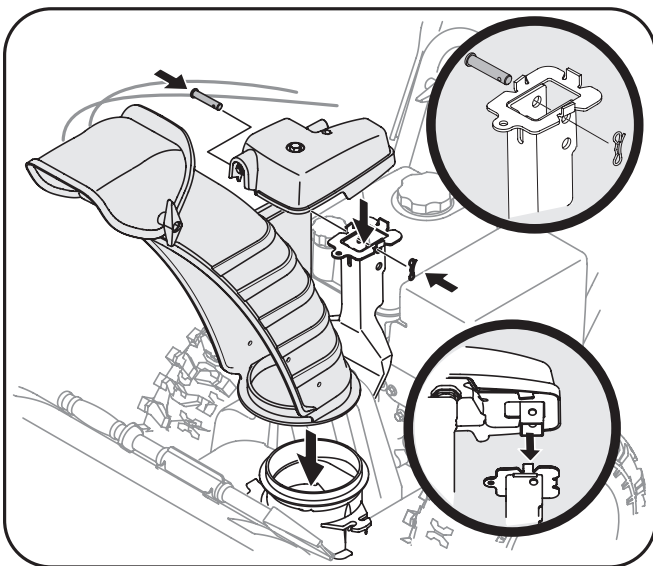

Figure 3-4
- Place chute assembly onto chute base and secure chute control assembly to chute support bracket with clevis pin and cotter pin removed earlier. See Fig. 3-4.